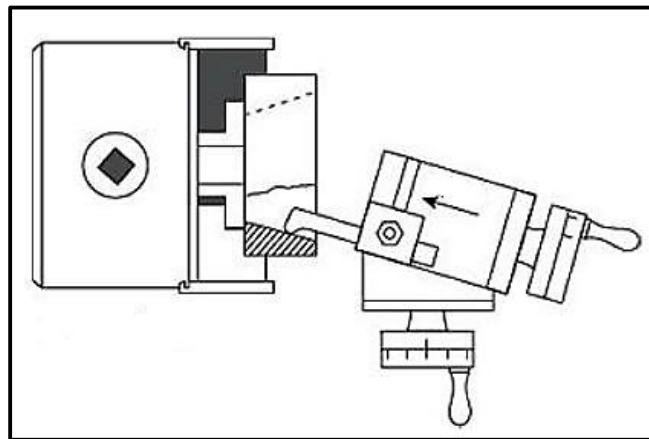

FIGURE 4.1
- 4.1 Identify the lathe procedure shown in FIGURE 4.1 below.